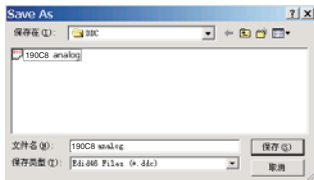

Fig. 25
- Click (Save) icon (or click "file"-> "save as") from the tool bar and give a file name as shown in Fig. 25. The file type is EDID46 file (*.ddc) which can be open in WordPad. By using WordPad, the texts of DDC data & table (128 bytes, hex code) can be modified. If DDC TEXTS & HEX Table ar completely correct, it can be saved as .ddc file to re-load it into DDC IC for DDC Data application.